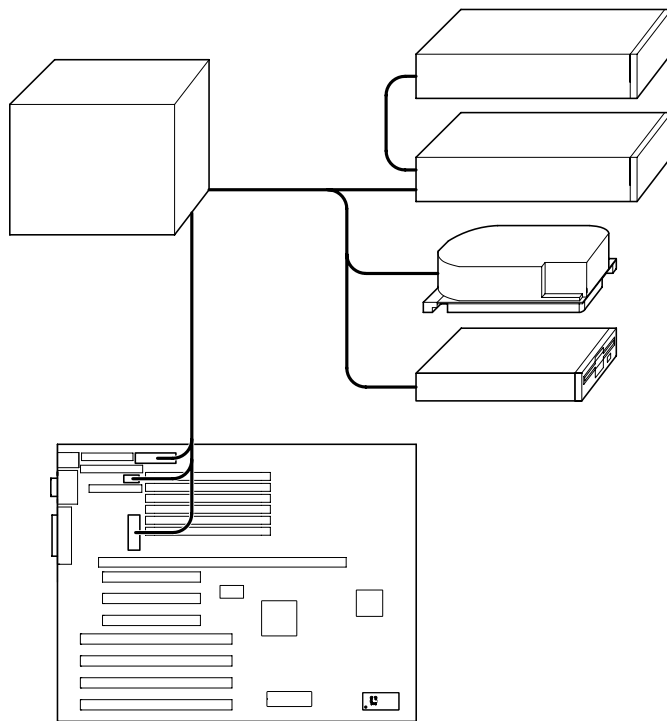

Figure 3-12. Power Cable Configuration
9. Connect a power cable to the device. Figure 3-12 shows the cables from the power supply.